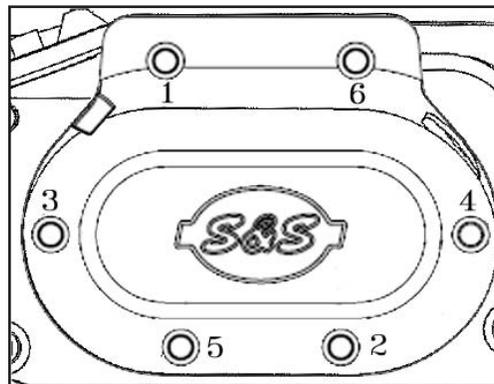

Figure 1
- 8- Install the new gasket and socket-head screws provided in kit, apply blue threadlock to each fastener and torque in sequence to 10-12 ft-lbs. **See Figure 1.**